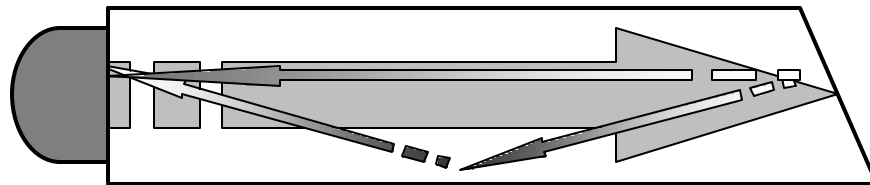

Figure 7
- Reflecting bolt ends not perpendicular to the axis of the bolt. Sonic energy will be reflected toward the side wall of the bolt, as shown in Figure 7.